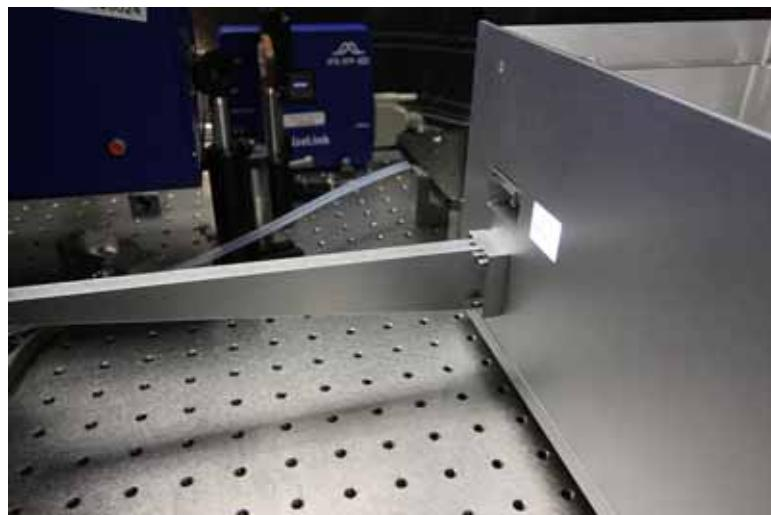

Figure 4.8-3. External Boresighting Tool
1. Attach the external boresighting tool, part number 131921988, using the 4 x M3 screws provided and a 2.5 mm hex key (see Figure 4.8-3).